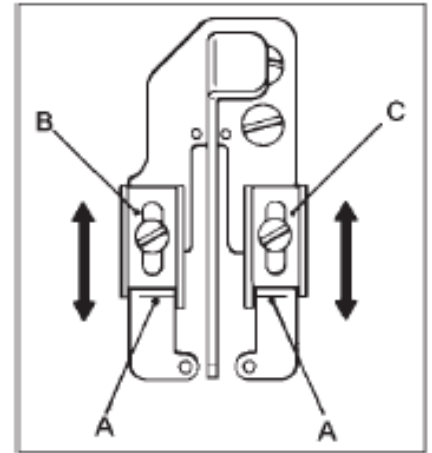
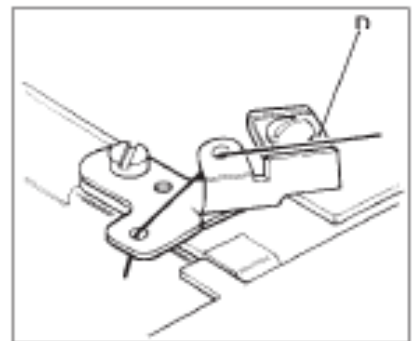

Fig. 20
Fig. 21
The mark (A) of the Supporting Plate meets thread eyes of Thread Take-Up Eyelet (B) and (C). (Fig. 20) This is the standard position of Eyelets. *When the Eyelets are moved to the front side after loosening Screws of the Thread Take-Up (B) and (C), the looper thread will be sewn loosely and when they are moved to opposite side the thread will be sewn tightly. *When using wooly thread, move Eyelets (B) and (C) (Fig.20) fully to the front without threading on Needle Thread Retainer Disc (D). (Fig. 21) *(Cotton/Spun Polyester) Set thread guides all the way forward as shown.